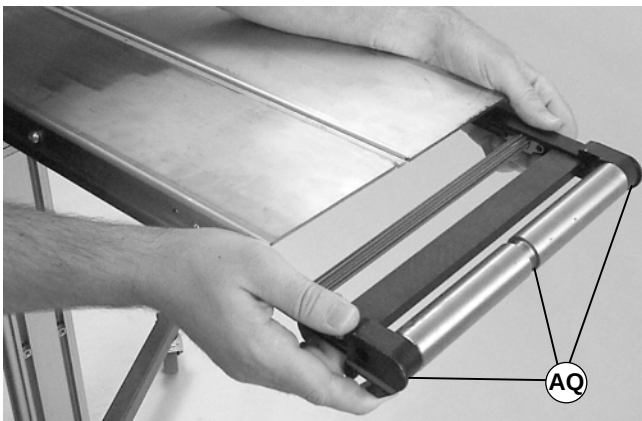

Figure 34
3. Remove tail assembly (AQ of Figure 34).